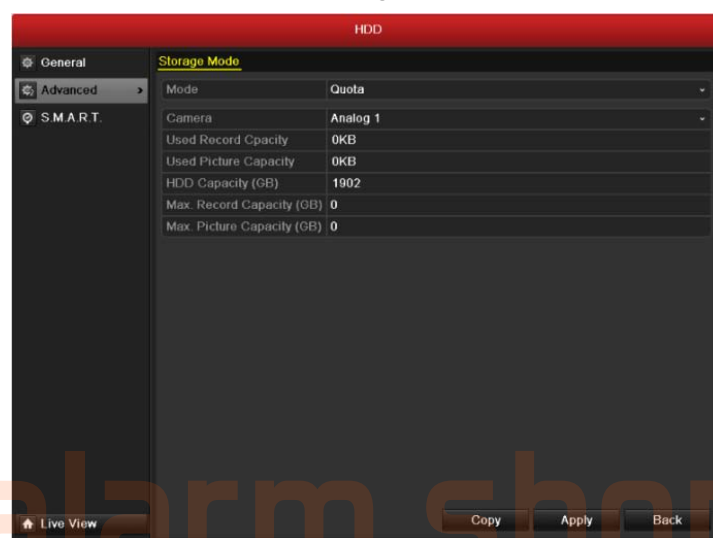

Figure 10.17 Storage Mode Settings Interface
2. Set the **Mode** to Quota, as shown in Figure 10.17.